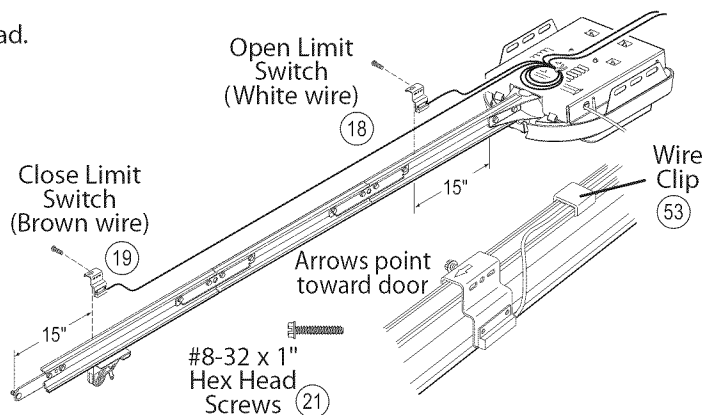

Figure 14 Install Limit Switches on Assembled Rail
- C Place Switches on Rail with arrows pointing away from Power Head (Figure 14).
- F** Lay Wires in channel on top of Rail and secure with Wire Clips (**Figure 14**).
- G** Coil and bundle excess Limit Switch Wires on top of Power Head with Twist Ties. Leave just enough Wire to reach Terminals on back of Power Head (**Figure 14**).